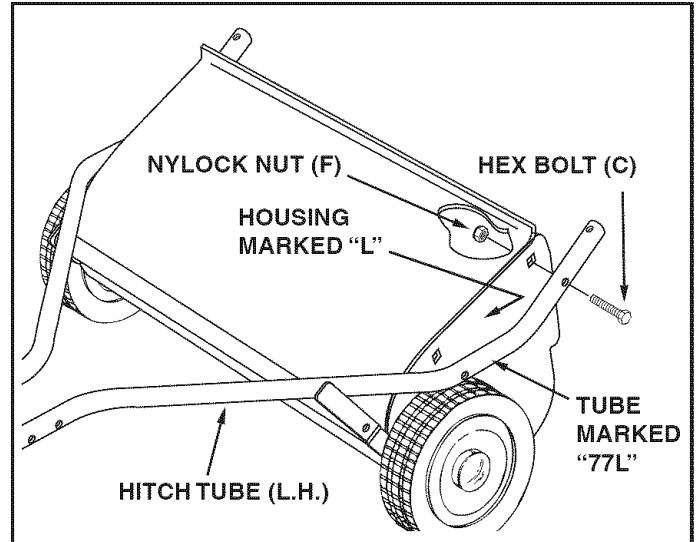

FIGURE 2
- Hold the left hitch tube against the left side of the sweeper so that the "77L" on the tube faces **away** from the sweeper. Attach the hitch tube using one hex bolt (C) and nylock nut (F). **Do not tighten yet.** See figure 2.